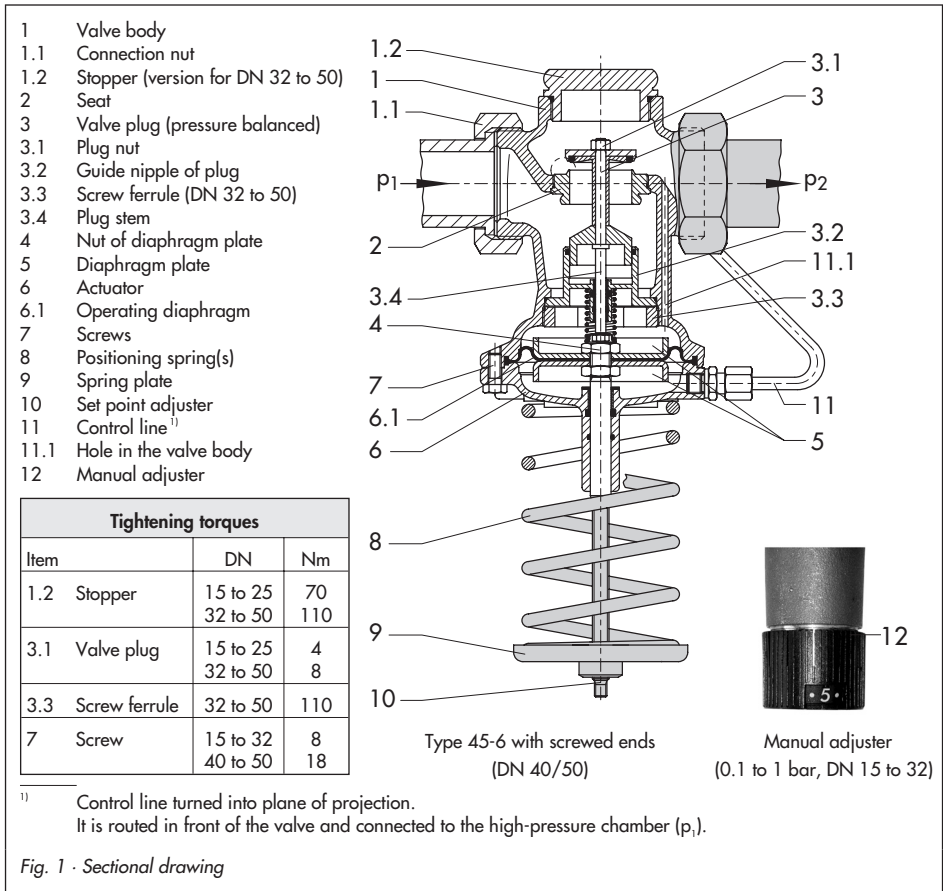

Fig. 1 · Sectional drawing
For **external connection** of the control lines (special version) observe the following steps: Connect the high-pressure line of the plant to the high-pressure connection (+) of the actuator (bottom diaphragm chamber) Connect the low-pressure line of the plant to the low-pressure connection (-) of the actuator (top diaphragm chamber) as illustrated in Fig. 1 (left).
– Refer to Fig. 1 on page 4 –
Refer to tightening torques listed in the table in Fig. 1.